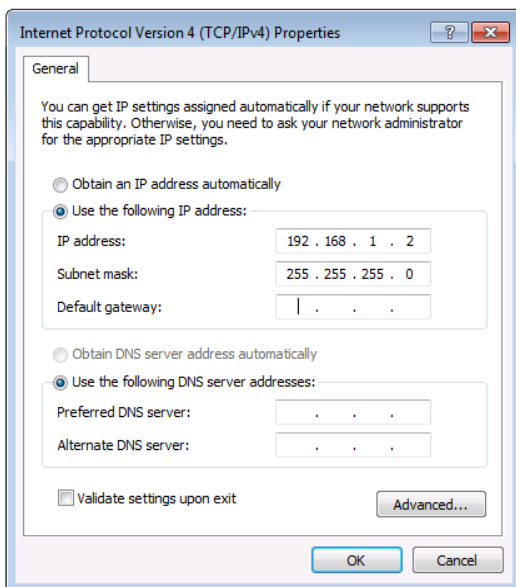

Figure 8: Internet Protocol Properties Window
6. Select **Use the following IP Address** for static IP addressing and fill in the details as shown in Figure 8.